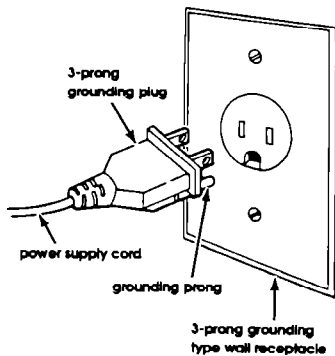

Figure 1
For your personal safety, this appliance must be grounded. This appliance is equipped with a power supply cord having a 3-prong grounding plug. To minimize possible shock hazard, the cord must be plugged into a mating 3-prong grounding type wall receptacle, grounded in accordance with the National Electrical Code, ANSI/NFPA 70-latest edition, and local codes and ordinances. (See Figure 1.) If a mating wall receptacle is not available, it is the personal responsibility and obligation of the customer to have a properly grounded, 3-prong wall receptacle installed by a qualified electrician.
- e. Rotate blower unit end over end. Rotate the unit 90° so that the exhaust ports face the rear of the unit. Slip wires into clips at the upper left hand corner of blower unit. (See figure 1.)